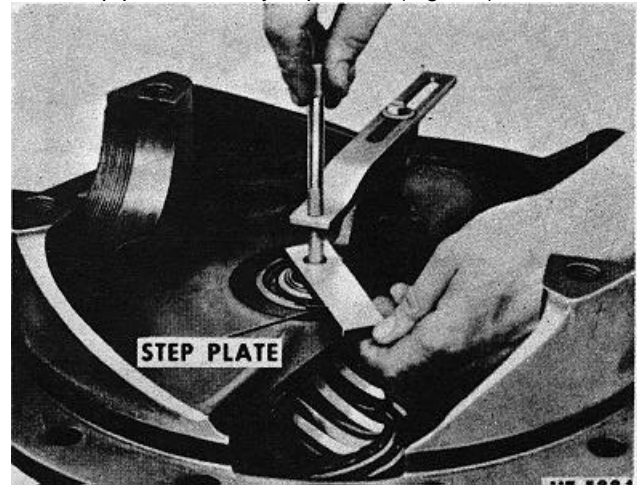

Fig. 14 Installing Step Plate
15. Install step plate under clamp screw and tighten screw to hold step plate securely in position (Fig. 14).